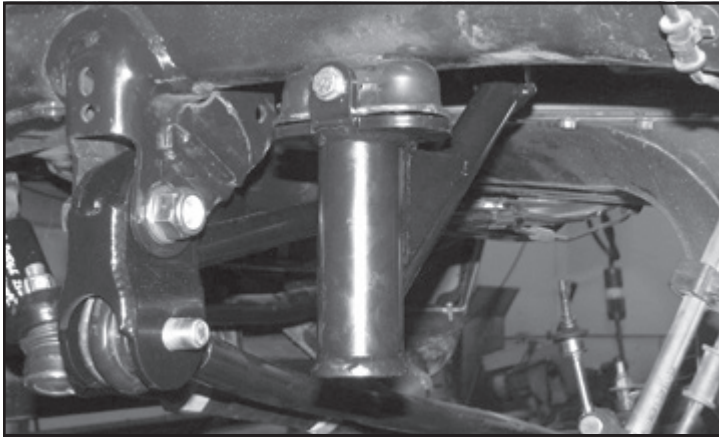

FIGURE 28 - STEP 35
35. Locate a 5/16"-18 x 2-1/2" bolt, nut and washers. Using this bolt, secure the bump stop to the factory bump stop mount and torque to 29 ft-lbs. **SEE FIGURE 28**